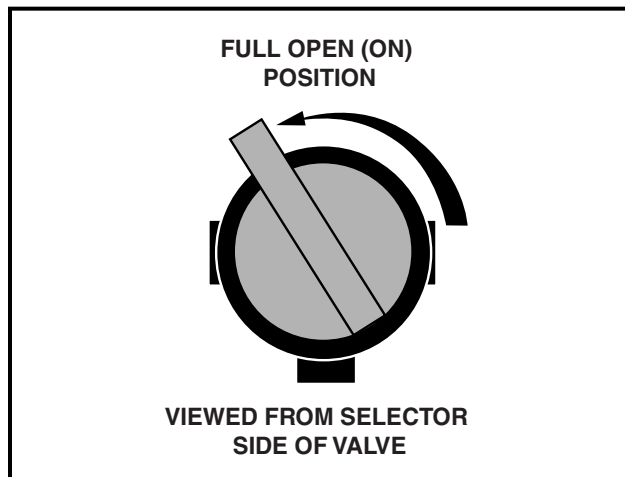
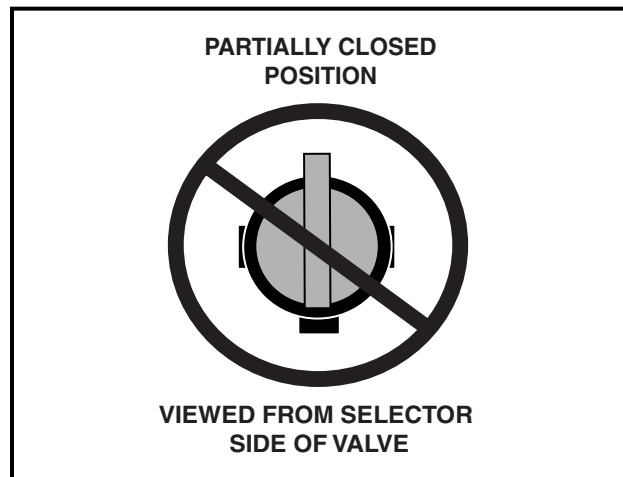

Figure 15 Fuel Shut-off Valve – Open Position
Figure 16 Fuel Valve – Partially Closed Position
6.1. Turn the fuel shut-off valve to the closed (OFF) position (**Figure 15**) and run the engine until fuel remaining in the carburetor and fuel line is depleted and the engine stalls.
6. Completely open the fuel shut-off valve (**Figure 15**). Make sure the valve is fully open. A partially closed fuel shut-off valve combined with the use of the choke can result in a fouled spark plug and engine failure (**Figure 16**).
- Turn fuel shut-off valve to the closed (OFF) position (Figure 15).